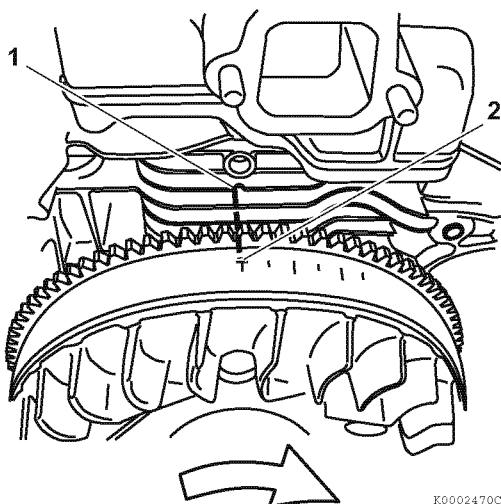

Figure 6-24
1. Rotate the flywheel until the TDC (Top Dead Center) mark on the flywheel (2, **Figure 6-24**) aligns with the left-hand edge of the timing reference "notch" on the cylinder cooling fin (1, **Figure 6-24**).